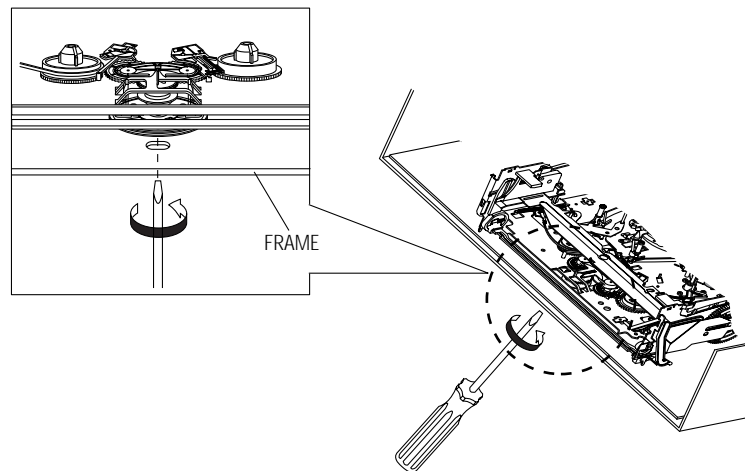

Fig. 3
- 2) When Slider S, T are approached in the position of unloading, rotate holder Clutch counterclockwise after inserting screw driver in the hole of frame's bottom in order to wind the unwiinded tape. (Refer to Fig. 3)